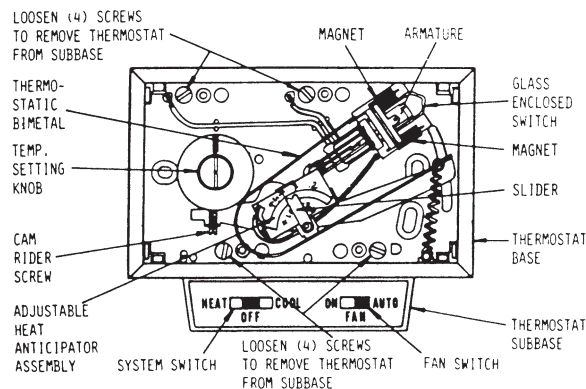

Fig 1. Thermostat with cover removed to show various parts
2. Remove the thermostat from the sub-base by loosening the four screws. See Figure 1.
The heat anticipator in the thermostat is adjustable to the control circuit current and is mounted in the thermostat as shown in Figure 1. The current range is marked on the carton label.
If the thermostat is found to be out of calibration when checked in its normal operating position after remaining at least one hour at room temperature, the calibration may be adjusted by means of the cam rider screw, see Figure 1.